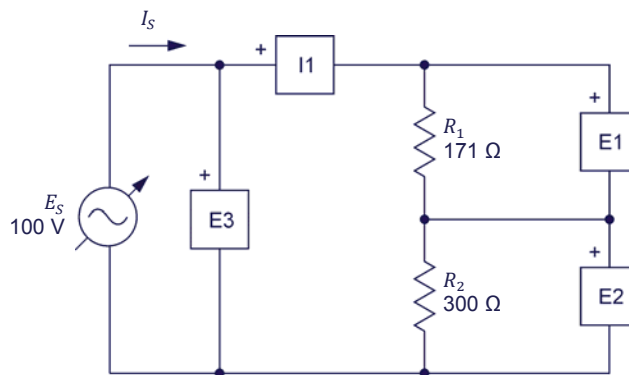

Figure 1-9. AC circuit containing two resistors connected in series.
- 24.** Set up the circuit shown in Figure 1-9. To obtain the resistor arrangement of Figure 1-9, make the necessary connections and switch settings on the Resistive Load (refer to Appendix C if necessary). Use inputs **I1**, **E1**, **E2**, and **E3** of the **Data Acquisition and Control Interface** to measure the source current I_S , voltage E_{R1} , voltage E_{R2} , and source voltage E_S , respectively.